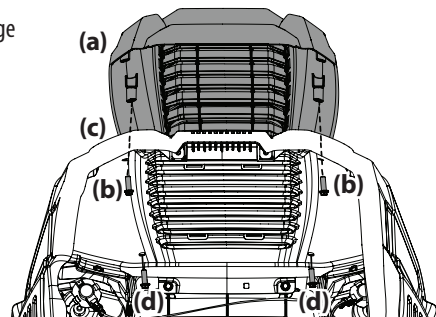

Figure 5
2. Secure the screw-on hood topper (a) from below, hand-tighten the screws (b) on the rear half of the hood and then securely tighten them. See Figure 5.
3. With the rear screws in place, align the holes in the hood topper (a) with the holes in the hood (c) and secure in place with remaining two screws (d). See Figure 5 on page 7.